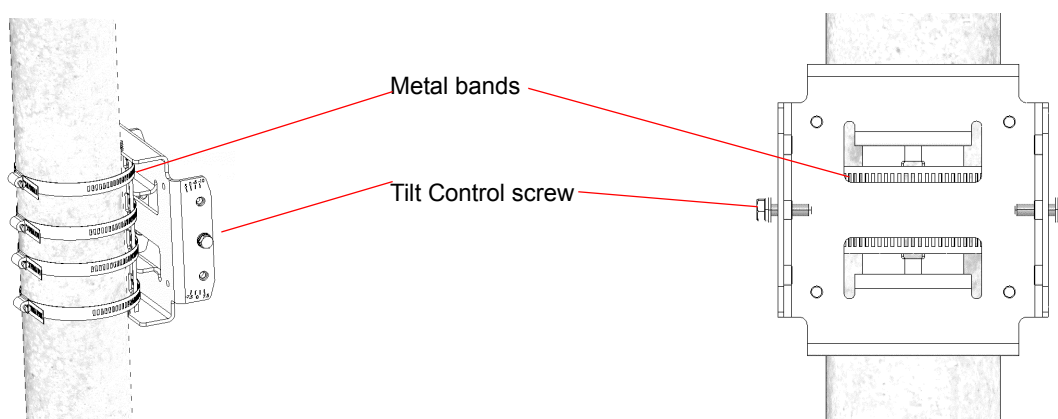

Figure 3: Assembling the Carriage on Poles Larger than 4" Using Metal Bands
- » For poles larger than 4" - Thread the four metal bands through the grooves on the carriage and fasten. See Figure 3.